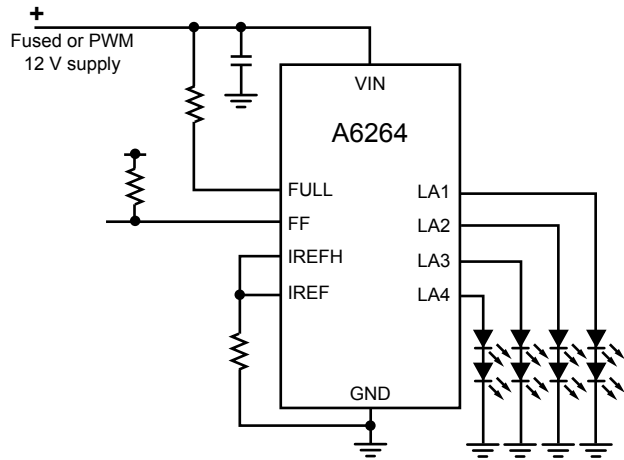

Figure 9. Incandescent lamp replacement.
- Figure 9 shows the A6264 driving LEDs in a low voltage incandescent lamp replacement. In such replacement applications the supply may be provided by a PWM-driven, high-side switch. The A6264 can be used in this application by applying the PWM supply directly to V_{IN} . When power is applied there will be a short startup delay, t_{ON} , before the current starts to rise. The current rise time will be limited by the internal current slew rate control. In this example the A6264 is operating with FULL high and with a fault output.